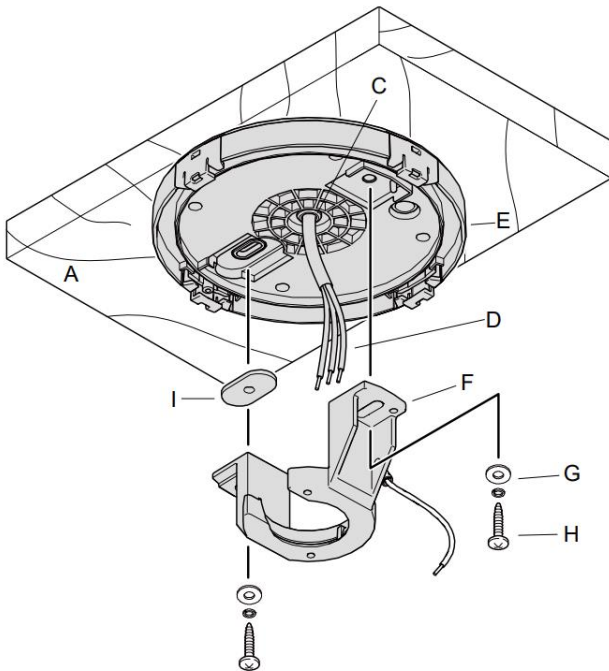
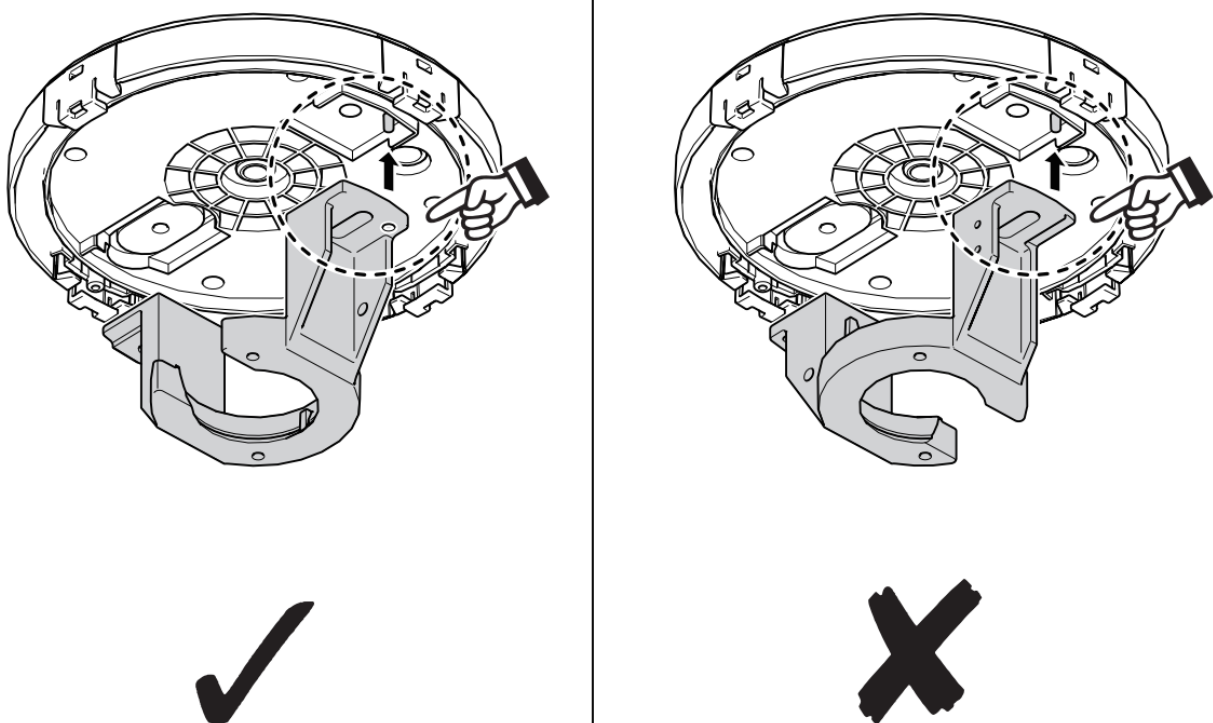

Fig.5
Fig. 6
- Pass the power supply wires and ground wire (D) from the ceiling outlet box through the grommet (C) of the canopy cover (E).
- Attach the mounting bracket (F) to the canopy cover (E).
NOTE: Check and ensure the mounting direction of the mounting bracket is correct and ensure the sealed pad (I) is in place; (Fig.5 & Fig.6)
- Install the ceiling mounting bracket (F) and the canopy cover (E) on the outlet box with the mounting screws (H) provided with the outlet box and washers (G) provided with fan. **Fig. 5**